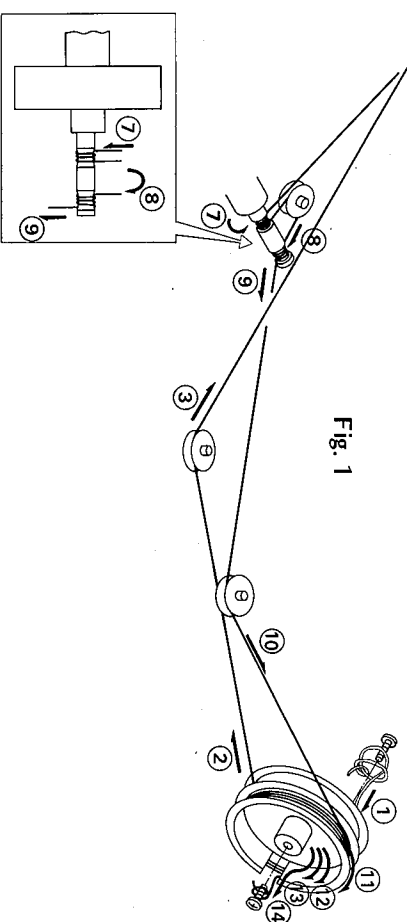

Fig. 1
- 1) Thread the dial cord in numerical order from 1 to 14 as Fig. 1.